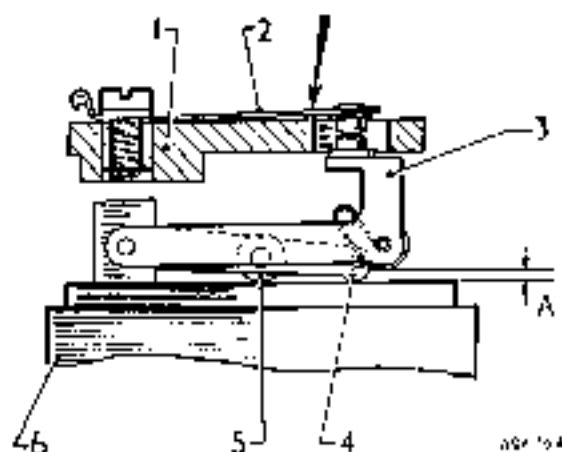

Fig. D.6
35. Check the gap between the points indirectly by carefully holding the contact blade against the rib on the pedestal, without pressing against the tip (Fig. D.6), then check if a .031 in. (.8 mm.) feeler will pass between the fibre rollers and the face of the coil housing, if necessary, the tip of the blade can be set to correct the gap.